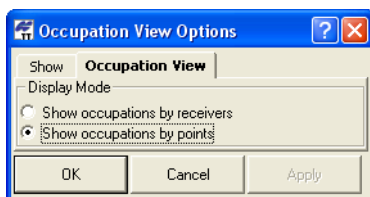

Figure 4-45. Occupation View Options
3. On the *Occupation View* tab, select the desired view option (Figure 4-45). Click **Apply** to save the settings.